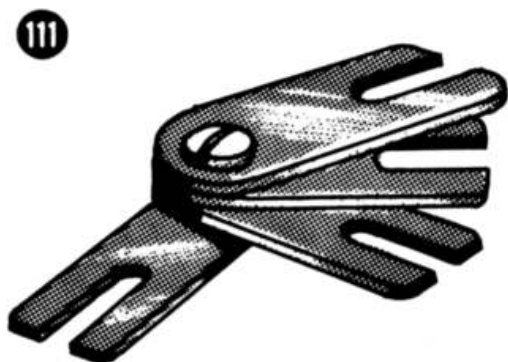

Fig. 35
left hand stitch position using the so-called loop lift gauge N 32 NU 6 (111) Fig. 35. Set left hand stitch,